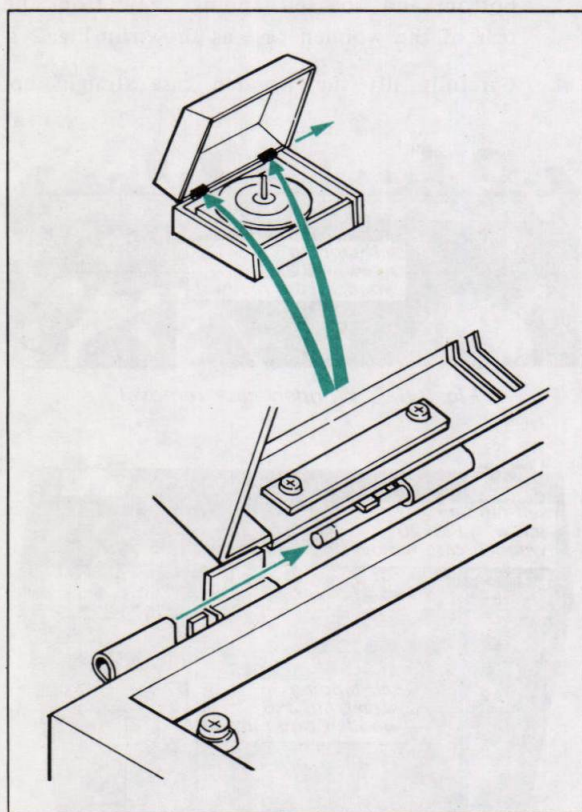

Fig. 2-2. Top cover removal
1. Open the top cover, and then push the lower part of top cover to the right as shown in Fig. 2-2. This frees the top cover.